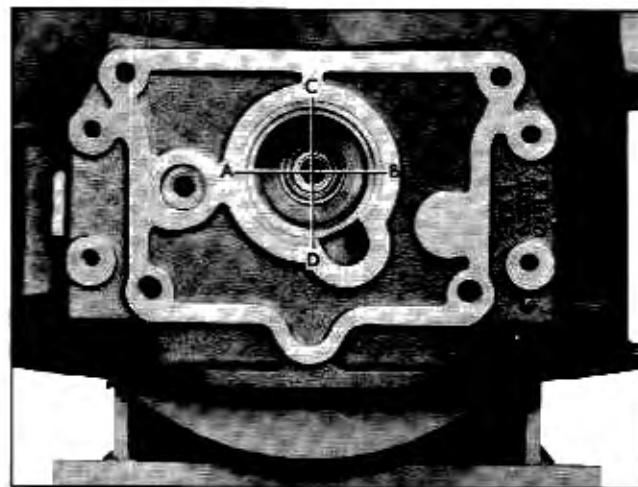

Fig. 7-29 Indicate Positions for Checking Hole
- a. Check horizontally: Rotate crankshaft to place dial indicator tip at point A, Fig. 7-29. Set dial at 0. Rotate crankshaft until indicator spindle is at B directly opposite point A. Indicator reading at B must not be more than .005" on either side of initial reading indicating that center of housing hole is within .0025" on either side of center of flywheel.
- b. Check vertically: Rotate crankshaft to place dial indicator tip at point C, Fig. 7-29. Set dial at .014". Rotate crankshaft until indicator spindle is at D directly under C. Indicator reading must be between .010" and .000" indicating center of hole in housing is .002" to .007" below center of flywheel.